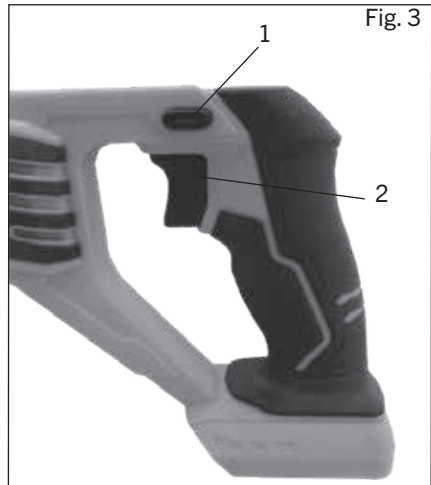

Fig. 3
2. While holding the lock-out switch in the pressed position, squeeze the trigger (2) switch to start the saw. (Fig.3)